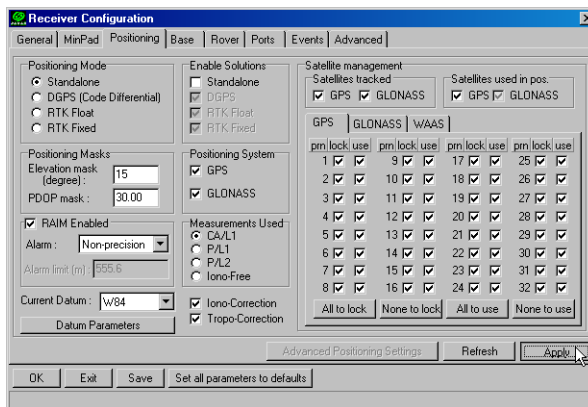

Figure 3-10. Receiver Configuration – Positioning
- Select the **Positioning** tab and set the Position Masks, Elevation mask parameter to 15 (Figure 3-10).
4. Select the **Positioning** tab and set the Position Masks, Elevation mask (degrees) parameter to 15 (Figure 3-10 on page 3-13).